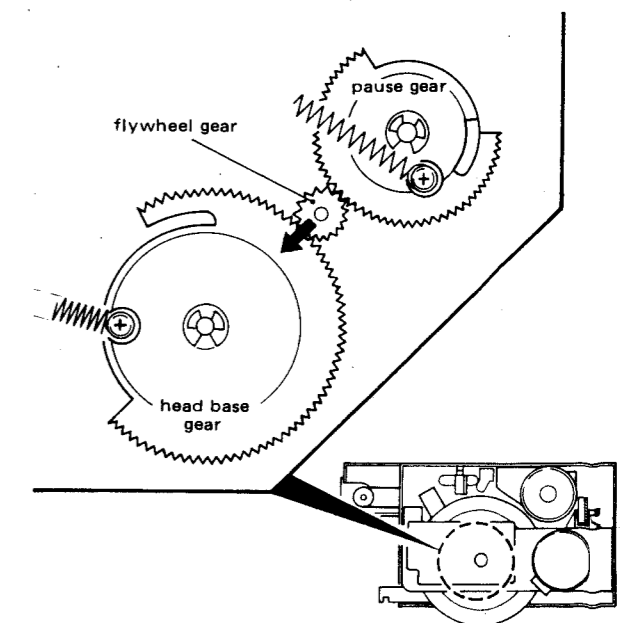

Fig. 4-4
Mount both the pause gear solenoid (17) and head base gear solenoid (18) so that they are positioned as far as possible in the direction of their respective plungers. (For an illustration of the pause gear and the head base gear, see Fig. 4-4).
Position the capstan metal housing so that the flywheel gear (attached to the flywheel shaft) is positioned as far as possible towards the head base gear as shown in Fig. 4-4.
Note: When the pause gear (refer to Fig. 4-4), pause arm (15), adjust plate (13), reel motor (20) and/or take-up gear assembly (5) are reinstalled or replaced, this adjustment must be made.